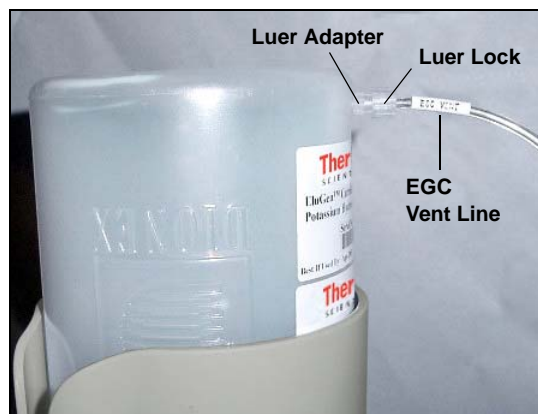

Figure 90. Installing the Dionex EluGen Cartridge Vent Line
3. Unscrew and remove the plug from the vent opening on the side of the Dionex EluGen cartridge (see Figure 90).
5. Twist the luer lock and Dionex EluGen cartridge vent line into the luer adapter (see Figure 90).